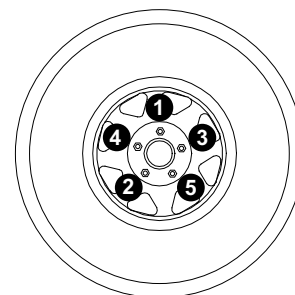

Figure 3-23. Tightening Wheel Lugs
7. See Figure 3-23. Inspect the wheel lugs. Tighten or replace any lugs that are loose or missing. If a tire has been removed for axle service or replaced, tighten the lugs, in the order shown, to the following specifications: